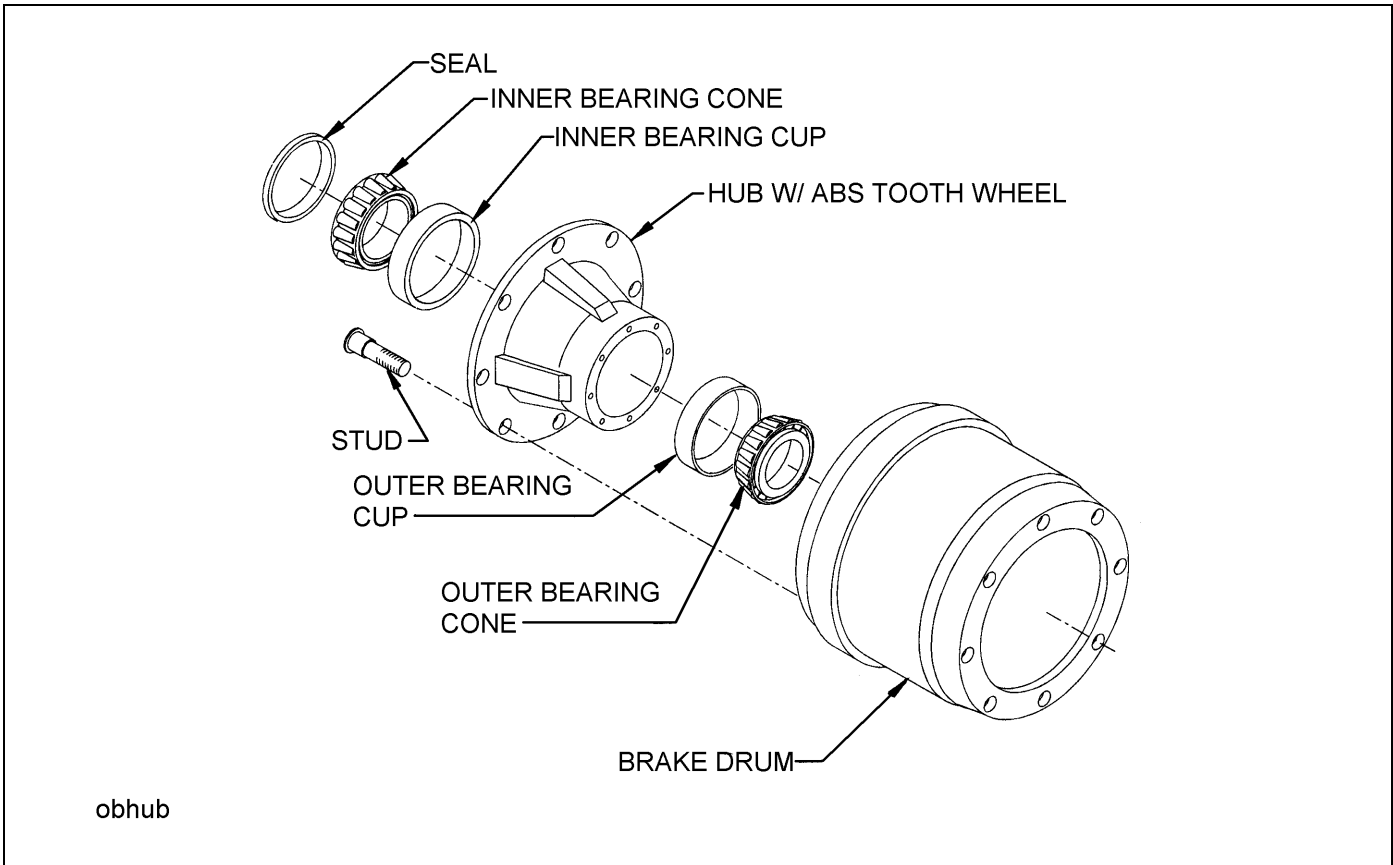

Figure 4-17: Outboard Hub and Drum
4. Replace the hub and drum as follows (See Figure 4-17.)
- a. Remove the brake drum (See Figure 4-17.) It may be necessary to release the slack adjuster.